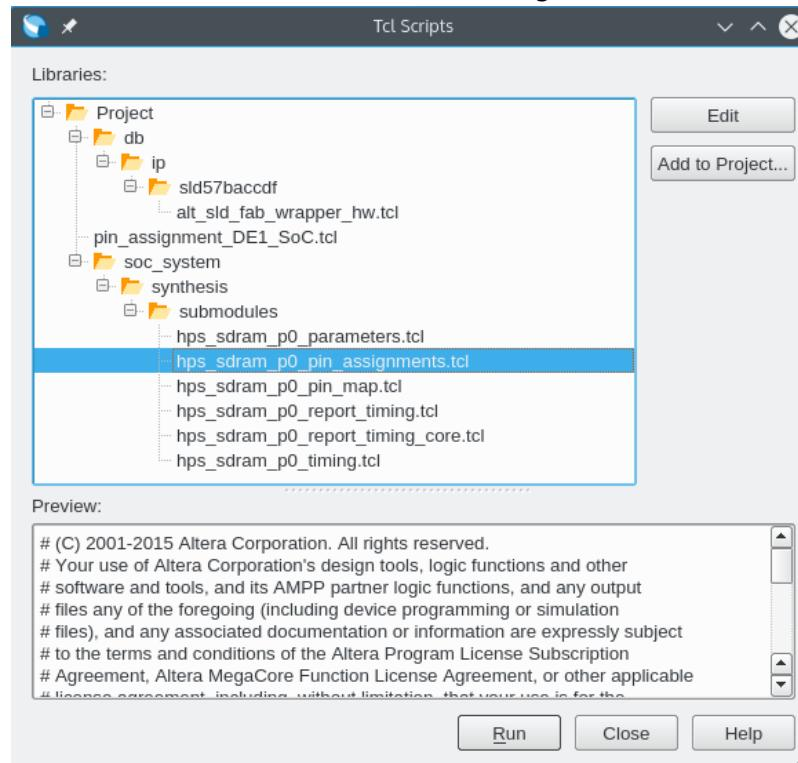

Figure 9-17. Correct HPS DDR3 Pin Assignment TCL Script Selection
**IF AT THIS POINT YOU DO NOT SEE THE SAME THING AS ON Figure 9-17, THEN CLOSE AND RELAUNCH QUARTUS PRIME AGAIN. SOME VERSIONS OF QUARTUS PRIME SUFFER FROM A BUG, WHERE THE PROGRAM DOESN'T CORRECTLY DETECT TCL FILES GENERATED BY QSYS. YOU SHOULD SEE THE SAME THING AS ON Figure 9-17.**